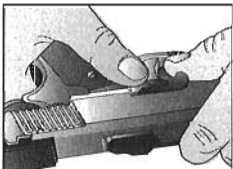

Figure 4
4. Insert the LaserMax slide stop from the left side of the gun, as you would the factory slide stop. Be sure the LaserMax sight switch is in the off position to avoid accidentally pointing the laser at your eyes as you assemble the gun and sight. The switch is in the off position when the point of the switch is parallel to the slide and toward the rear. (figure 4)